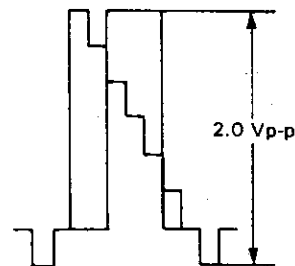

Figure 2-11.
2. Hook up the oscilloscope to video output terminal. Adjust R201 (playback level control) so that the on-screen waveform be $2.0 \pm 0.1\text{Vp-p}$ as shown in Figure 2-11.